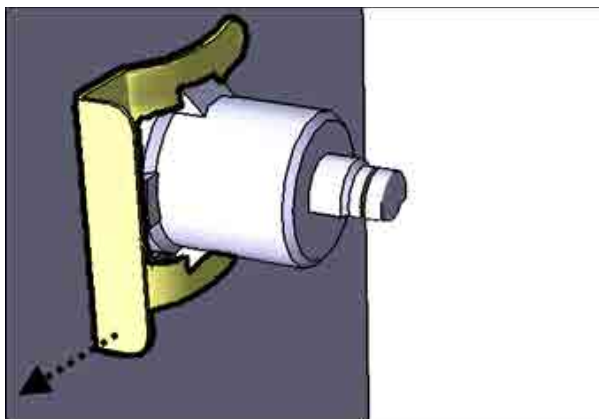

FIGURE 6
7. Slide off the spring holding the cylinder. (Fig. 6)